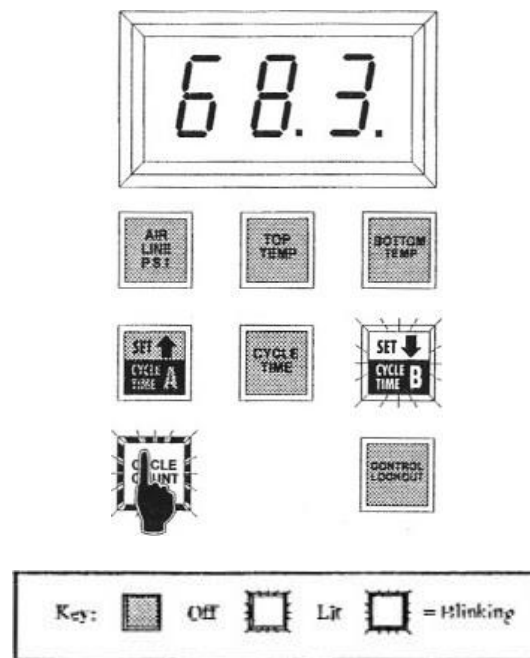

Figure 9-1
2. Press and hold the Cycle Count button. After approximately two seconds, the panel's  button will light and the Cycle Count button blinks, as shown in Figure 9-1. This puts the control panel in Set Mode. Release the Cycle Time button. The control panel displays the current cycle count.